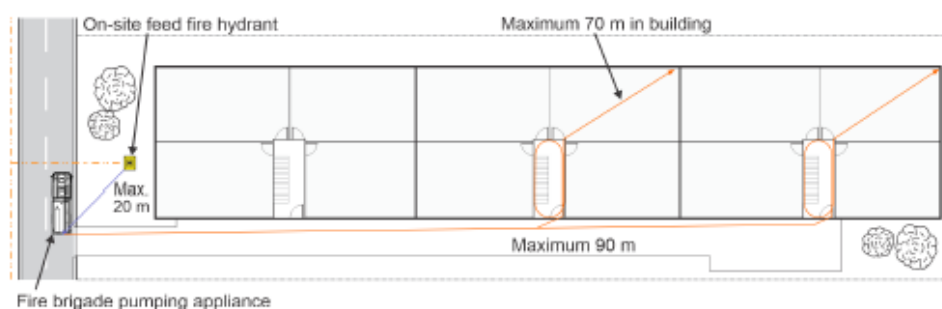

Figure 3 Example of fire hydrant coverage from an on-site feed fire hydrant
- 6.2.1 All portions of floor area are to be within 90 m of a fire appliance supplied from an on-site feed fire hydrant, except not more than 70 m is to be within the building (see Figure 3).